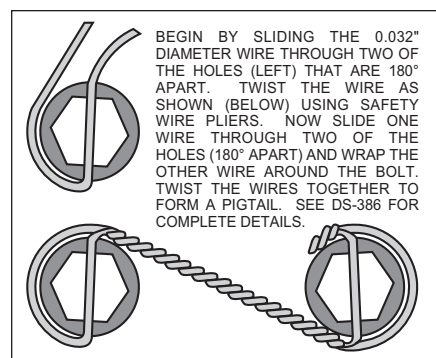

Figure 6. Safety Wire Diagram
•Align the correct hole pattern in the rotor (3) with the stud pattern on the axle flange.
**NOTE:** Some OEM and after market axles come with stud sizes larger than 0.50" diameter. Verify stud size and have a qualified machine shop drill the bolt circle of the rotor to the correct stud size, if necessary. Slide the rotor (3) over the wheel studs covering the mounting bracket assembly (1) and against the axle flange face.
•**NOTE:** Please reference the caution statement at the beginning of the assembly instructions. WITH THE BLEED SCREWS POINTING UP, mount the caliper (4) over the rotor (3) and onto the caliper mounting bracket (1) using lock washers (5) and mounting bolts (6). View the rotor through the top opening of the caliper. The rotor should be aligned in the center of the caliper. If not, adjust the caliper by using 0.032 inch shims (7) by placing them between the caliper mounting bracket (1) and the caliper (4). Apply red *Loctite*® 271 to the mounting bolt threads (6), torque to 30 ft-lb. Safety wire the caliper mounting bolts (6) using standard 0.032 inch diameter stainless steel safety wire as shown in Figure 6. Please refer to Wilwood's data sheet DS-386 (available at [www.wilwood.org/ds386.pdf](http://www.wilwood.org/ds386.pdf)) for complete safety wire installation instructions.
•Position the Wilwood disc brake pads (8) into the caliper (4) and fasten with cotter pin (9). Steel backing plate side of brake pad should face the caliper pistons.
•Before final installation of the wheel, install a couple of lug nuts and adjust the parking brake shoes outward (using a drum shoe adjustment tool available at your local auto parts store) while spinning the rotor/hat (3) until a slight drag is felt again the hat/drum.